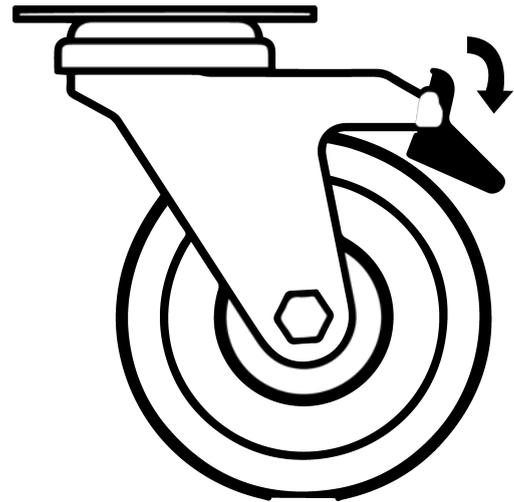

Fig 2. Castor Locked
- When placing the Envirotherm cabinet into place, ensure that the castors can be accessed so they can be locked (**Fig 2**) and unlocked (**Fig 3**). Please contact your supplier or Thermoline should there be any damage to the castors.